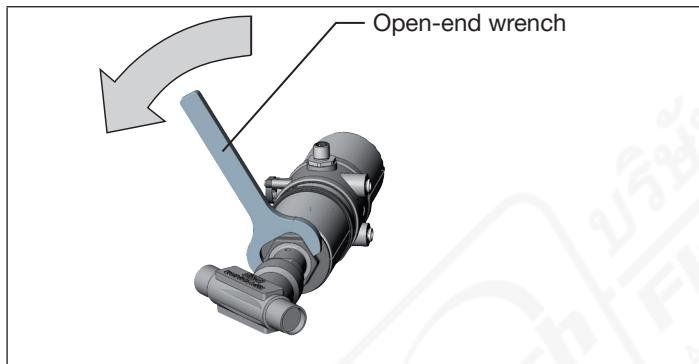

Fig. 23: Rotating with open-end wrench
- ▶ Only turn the actuator in the specified direction (see „Fig. 23“)!